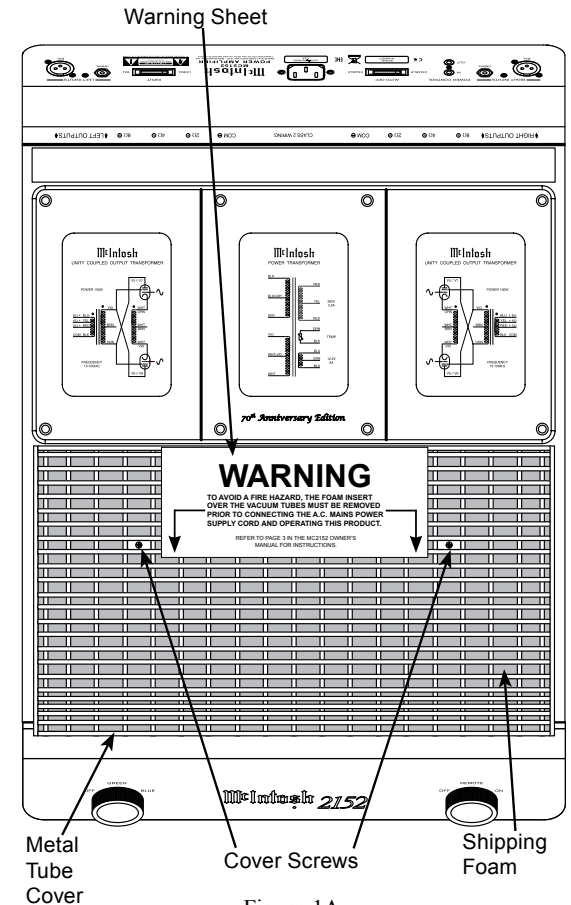

Figure 1A
1. Orient the MC2152 so the Front of the Power Amplifier is facing you and remove the Warning Sheet. Refer to figure 1A.